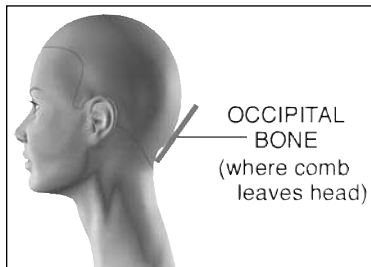

FIGURE 20 | The occipital bone.
- The *occipital bone* protrudes at the base of the skull. When a comb is placed flat against the nape area, the occipital begins where the head curves away from the comb (Figure 20).